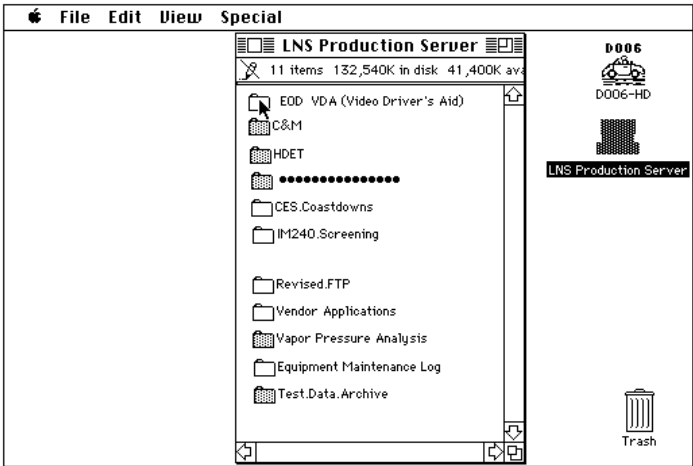

Figure 4
7.25.5 Double click on the “EOD VDA” folder (see figure 4).